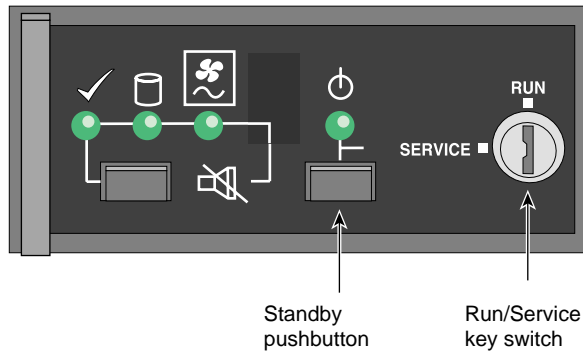

Figure 2-5 ESI/Ops Panel, Rackmount: Powering On
3. For an unattended installation where the storage system is required to power on whenever AC power is present, the **RUN/SERVICE** key switch on each ESI/ops panel of each enclosure you are operating should be in the **RUN** position. The enclosures ship from the factory with this setting; see Figure 2-5.